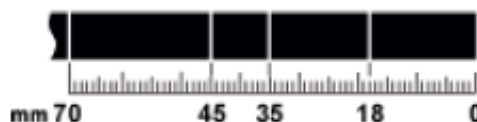

Figure 4-12 Determining the length of the power cable
Step 1: Determine the length of the power cable for different operations based on the labels, as shown in Figure 4-12.